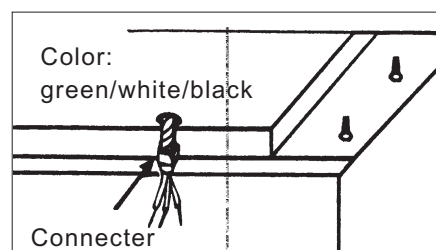

Fig.9
- Fish the electrical power line through the access hole drilled in the wall or bottom of the cabinet. Attach an appropriate connector (purchased locally) to the end of the power line for the type of wiring being installed. Follow all codes. (Fig.9)